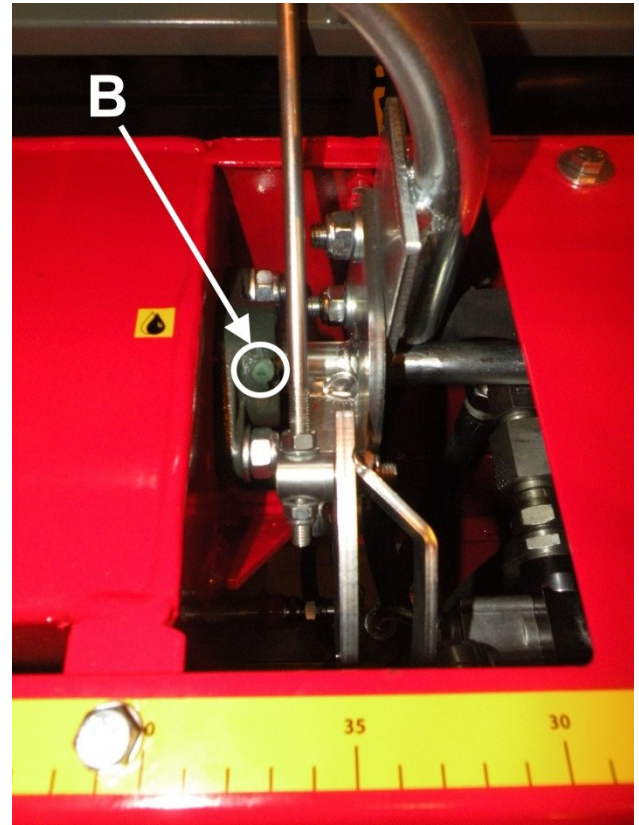

Figure 31.
2. The left-side nipple B of the saw shaft (Figure 31).